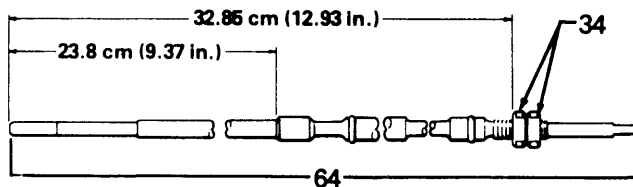

Fig 9
The fluid needle assembly (64) is sent from the factory with retaining nuts (34) set for the correct length. If these nuts are moved, reset them to the proper dimension shown in Fig 9.